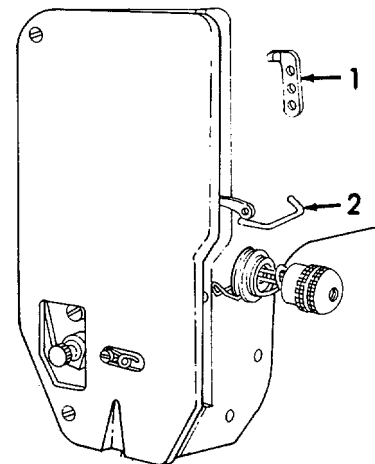

Figure 6-89. Thread Guides, Installation.
g. *Installation (Refer to Figures 6-89 and 6-90).*
- (1) Refer to Figure 6-89. Install upper thread guide (1) by pressing into place.
- (2) Install lower thread guide (2) by pressing into place.